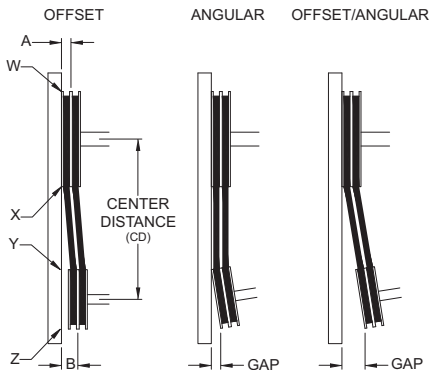
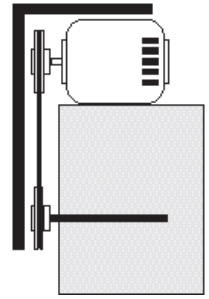

Figure 4
Figure 5
- Ensure pulleys are properly aligned. Refer to Figure 4.
Figure 4 indicates where to measure the allowable gap for the drive alignment tolerance. All contact points (indicated by WXYZ) are to have a gap less than the tolerance shown in the table. When the pulleys are not the same width, the allowable gap must be adjusted by half of the difference in width (As shown in A & B of Figure 4). Figure 5 illustrates using a carpenter's square to adjust the position of the motor pulley until the belt is parallel to the longer leg of the square.